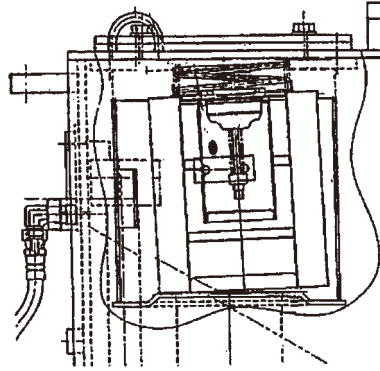

Fig. 2 Bad condition
- ★ Do not insert the element so that it stands on the step at the bottom of the case as shown in Fig. 2. When the filter case is filled with oil, it is difficult to check if the element is inserted correctly, so turn the element by hand after inserting it in the case. When it turns smoothly, it is considered to be inserted correctly.